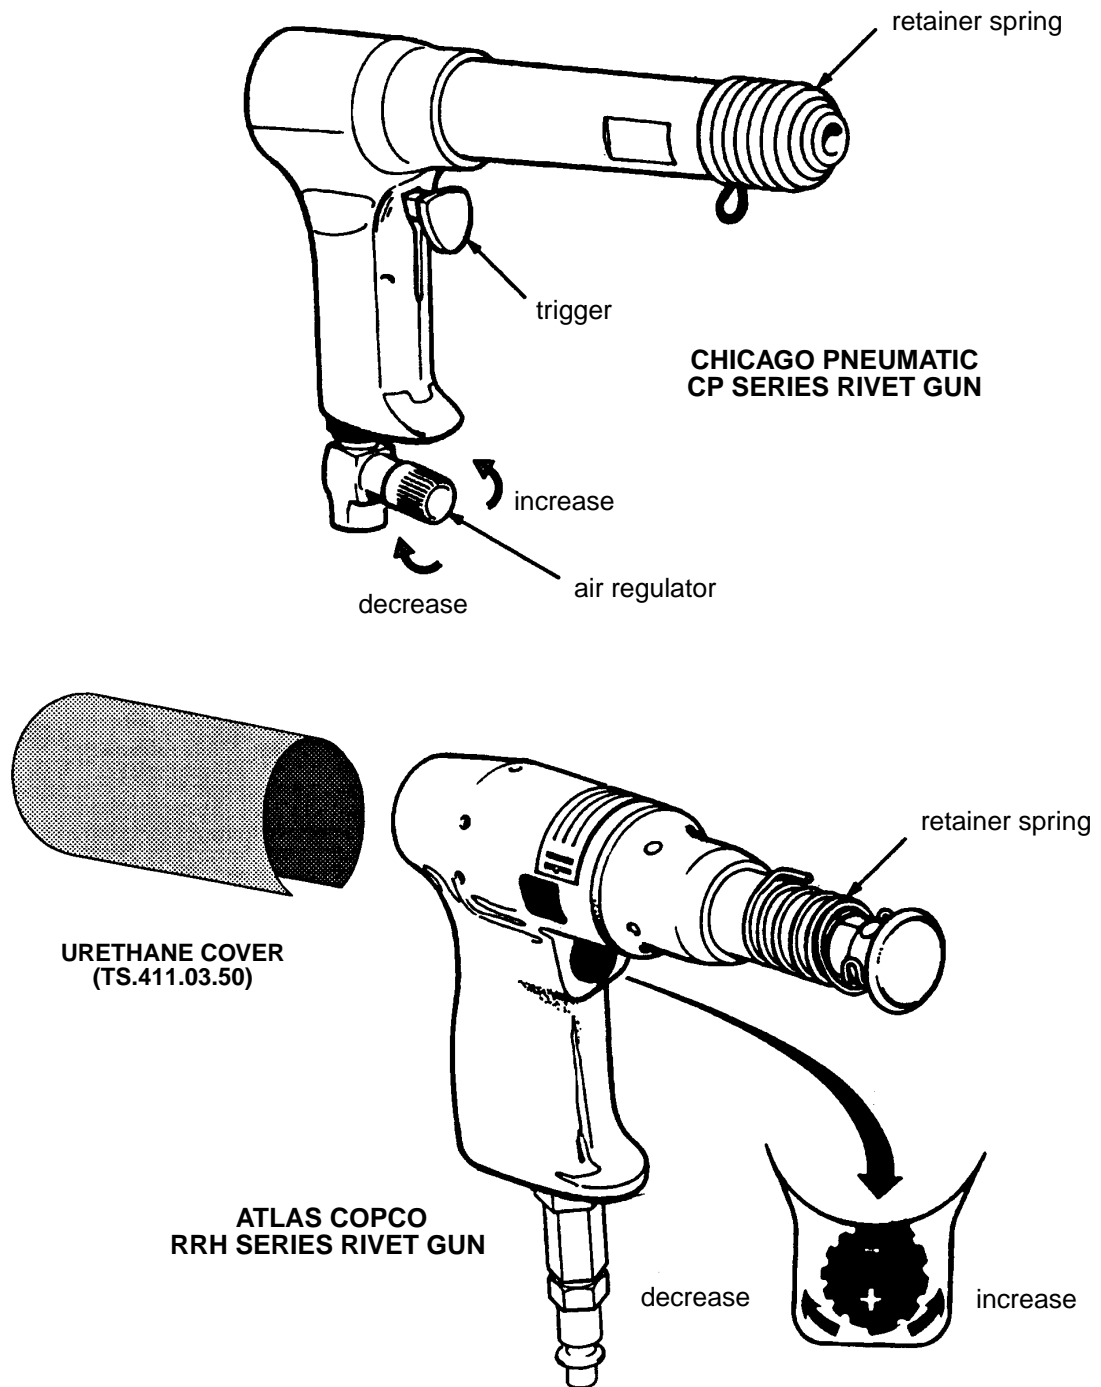

Figure 2 - General Description of Pneumatic Rivet Guns (Typical)
5.2 Pneumatic Rivet Guns (see Figure 2)